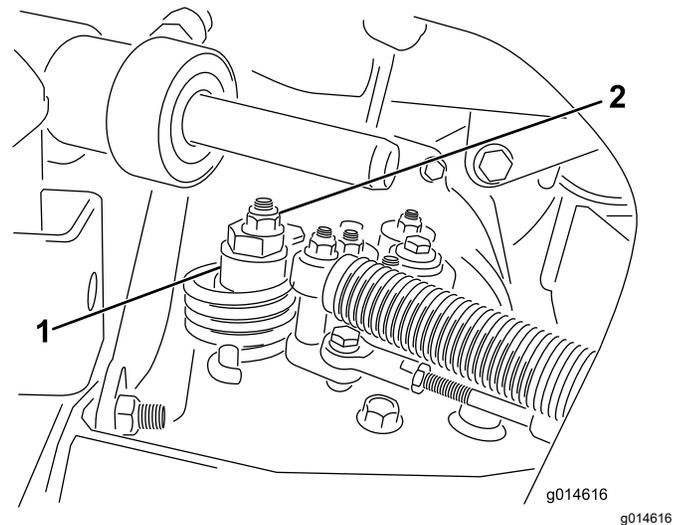

Figure 49
- A. Loosen the nut securing the eccentric to the top of the hydrostat (Figure 49).
- C. Rotate the eccentric until creep does not occur in either direction. When the wheel stops rotating, tighten the nut locking the eccentric and the adjustment (Figure 49). Verify the adjustment with the throttle in the SLOW and FAST position.